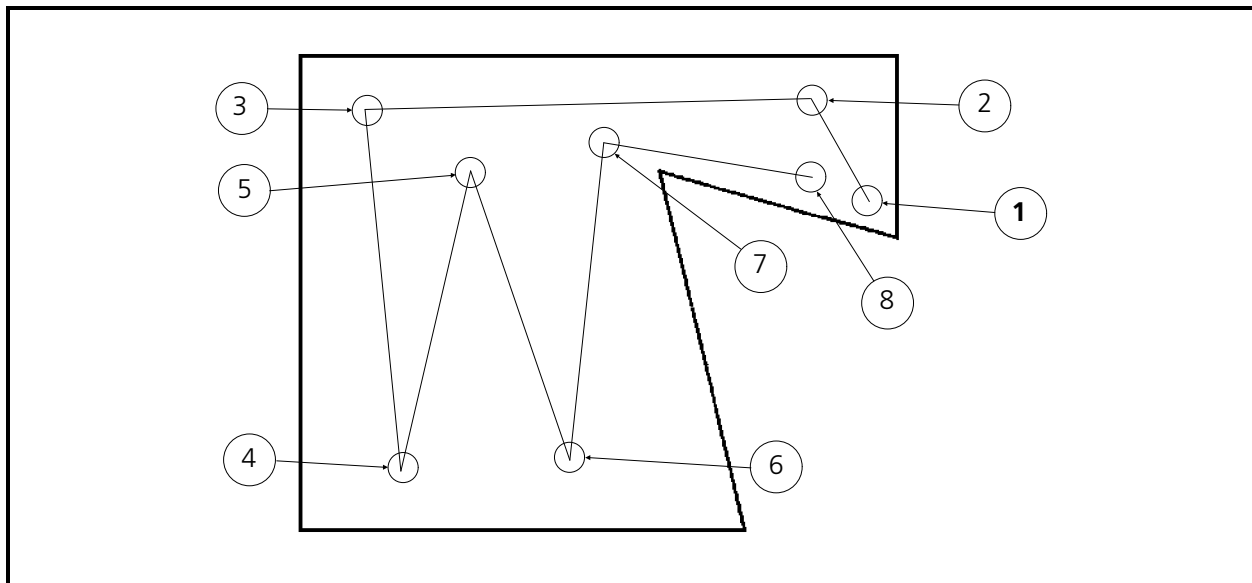

Figure 3-54
1. Remove the Melco artwork. Locate and attach the irregular shaped block artwork from the back of the manual (see Figure 3-54).
5. Position the tablet cursor in the area in the shape identified as location 1 in Figure 3-54 and enter a Mk1.
7. Generate the routine lock stitches, then to keep the material from puckering or migrating during the fill stitching, put down a running stitch underlay by entering Mk1s at locations 2 through 8 as shown in Figure 3-54.